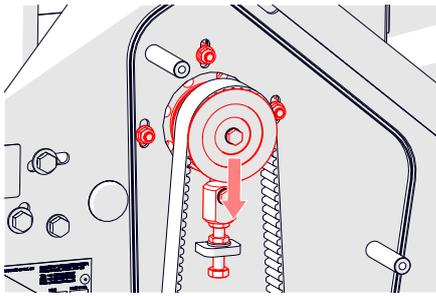

Fig. 20E - Support the weight and lower.
7. While supporting the weight of the motor and belt, loosen fully the tensioner block lock nut [17 mm spanner] below the tensioner block and lower (Fig. 20D & Fig. 20E).